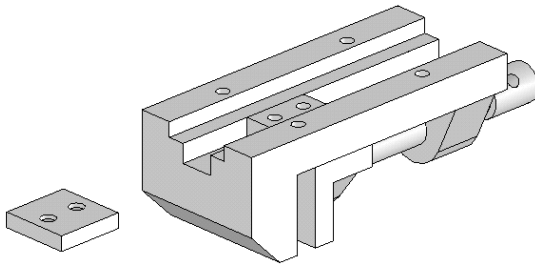

Figure 12-69 Rotated assembly
- Next, assemble the Clamping Plate, refer to Figures 12-69 through 12-72.
2. Rotate the assembly such that the bottom face of the assembly is displayed, as shown in Figure 12-69.